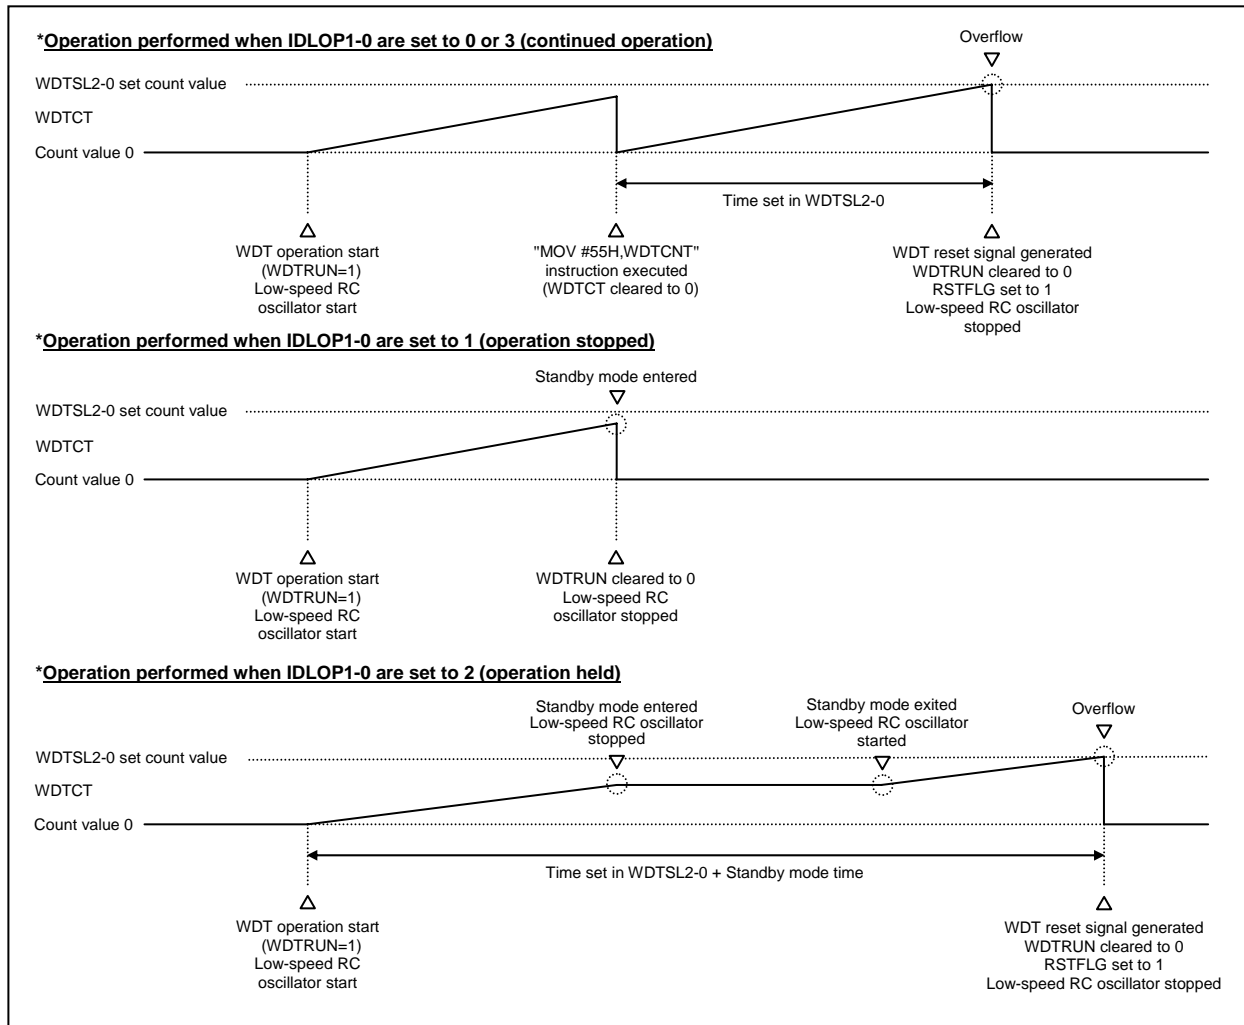

Figure 4.5.2 Sample Watchdog Timer Operation Waveforms
\* See Figure 4.5.2 for details on the WDT operation.
- \* See Figure 4.5.2 for details of the WDT operating modes.